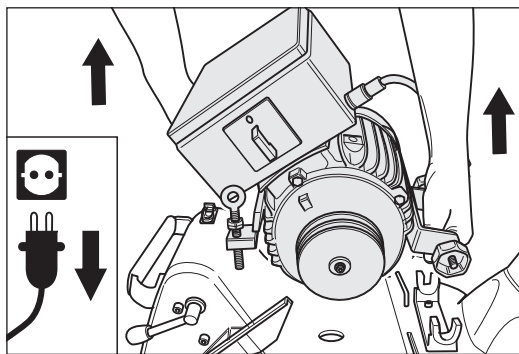

Fig. 46 Remove the motor from the machine housing.
- 9 Remove the motor from the machine housing (Fig. 46) and secure it during transport against slipping and damage!